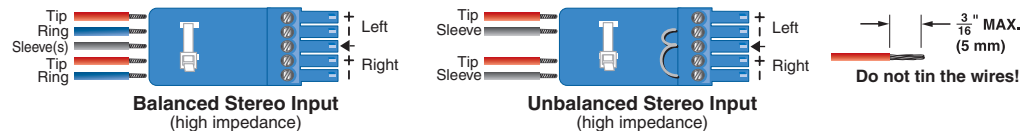

Figure 5. Audio Input Captive Screw Connector Wiring
- D Analog audio input** — Connect a balanced or unbalanced stereo line level audio device to this 5-pole, 3.5 mm captive screw connector. Analog audio can be selected for output with the HDMI input instead of the embedded audio. Wire the connector as shown in figure 5.